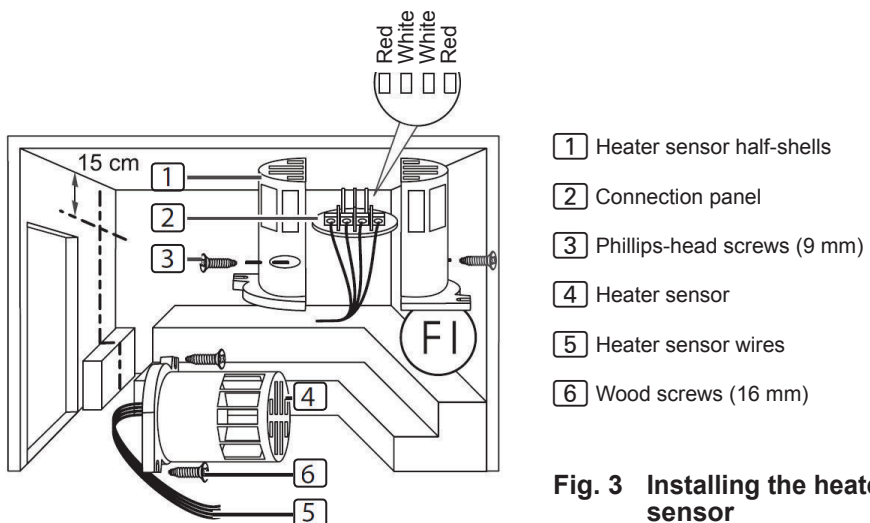

Fig. 3 Installing the heater sensor
To install the heater sensor, perform the following steps (see **Fig. 3**):
3. Connect the four connectors for the heater sensor wire **[5]** in accordance with the **Fig. 3**.
4. Place the connection panel **[2]** crossways (as shown in **Fig. 3**) in the heater sensor half-shells.